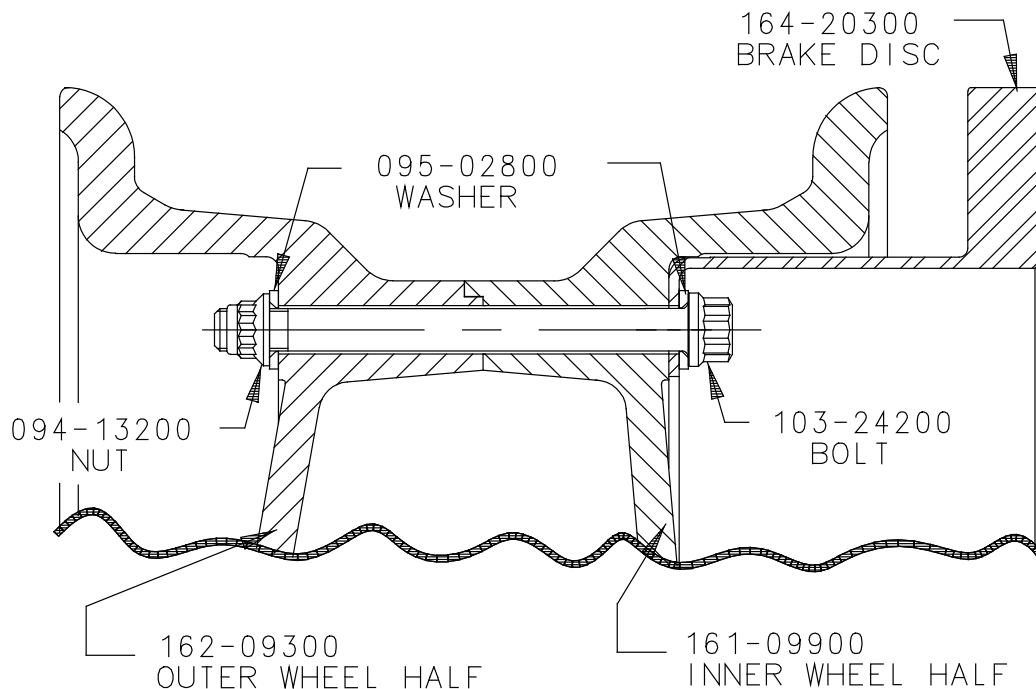

Figure 1
C. Align wheel halves and slide tie bolt through the inner wheel half assembly side, P/N 161-09900. (See Fig. 1.)